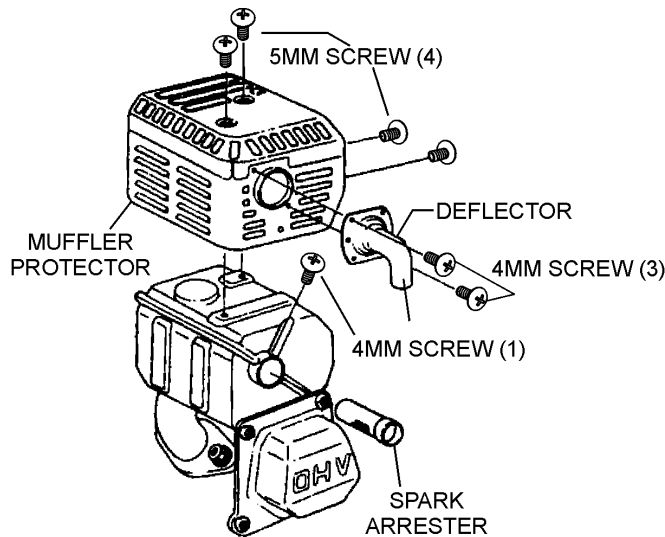

Figure 46. Spark Arrester Removal
1. Remove the 4 mm screw (3) from the exhaust deflector, then remove the deflector. See Figure 46.
2. Remove the 5 mm screw (4) from the muffler protector, then remove the muffler protector.